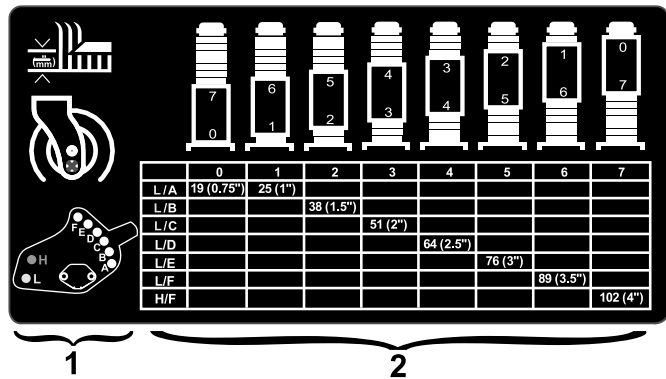

Figure 19
2. Refer to the height-of-cut setting table on the height-of-cut decal (Figure 19) for common height-of-cut settings.
4. Install the bolts in the locations specified in Figure 19 for the desired height of cut; torque the nuts to 60 N·m (44 ft-lb).
5. To adjust the position of the caster fork, remove the height-of-cut caps from the front caster shafts and adjust the amount of spacers on either side of the caster shaft hub (Figure 19).